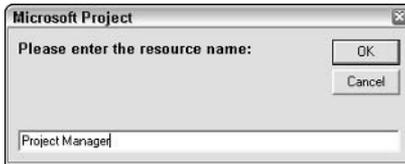

Figure 25-7: Select a resource whose tasks you want to view.
- The Microsoft Project dialog box opens, as shown in Figure 25-7. At the prompt to enter the resource name, type **Project Manager** and click OK.